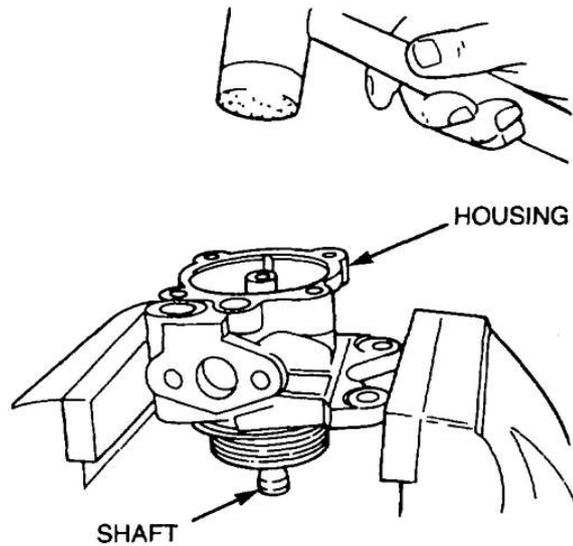

Figure 148 Removal of the Pump Shaft from the Housing
- h. Using pointed nose pliers, remove the snap-ring. Remove the pump shaft from the housing by lightly tapping the shaft with a soft hammer (Figure 148).